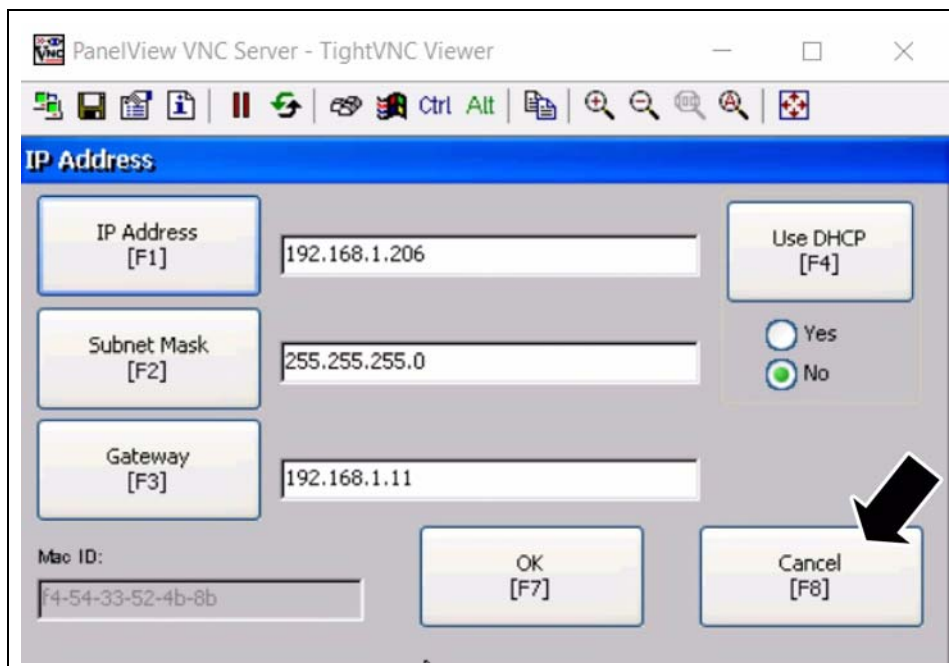

Figure 4F
6. IP addresses will typically be set as seen below. When finished, select Cancel to discard any changes or Enter to save the changes. (See Figure 4F.)